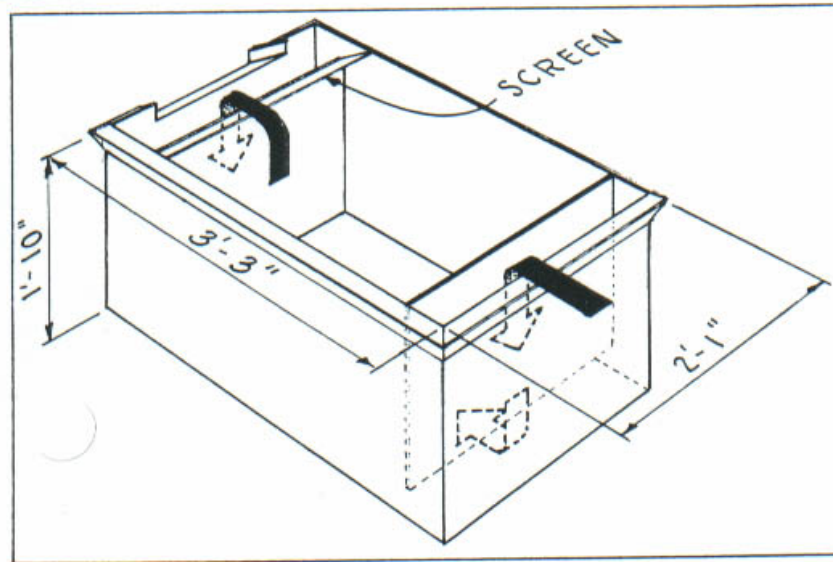

Figure 18. Free-style incubator.
4. Free-Style Incubation Box The free-style incubator is a single plastic unit identical in principle to a module of a deep trough described earlier in this chapter. They are successfully used in Japan, and were recently introduced in the Pacific Northwest. Commonly manufactured from polyethylene or polypropylene plastic, the incubators measure about 2-x 2.5-x 2-feet deep (Fig. 18). They are used in tandem (Fig. 19) for egg incubation and singly for alevins. When used together, the water flows from one to the other.